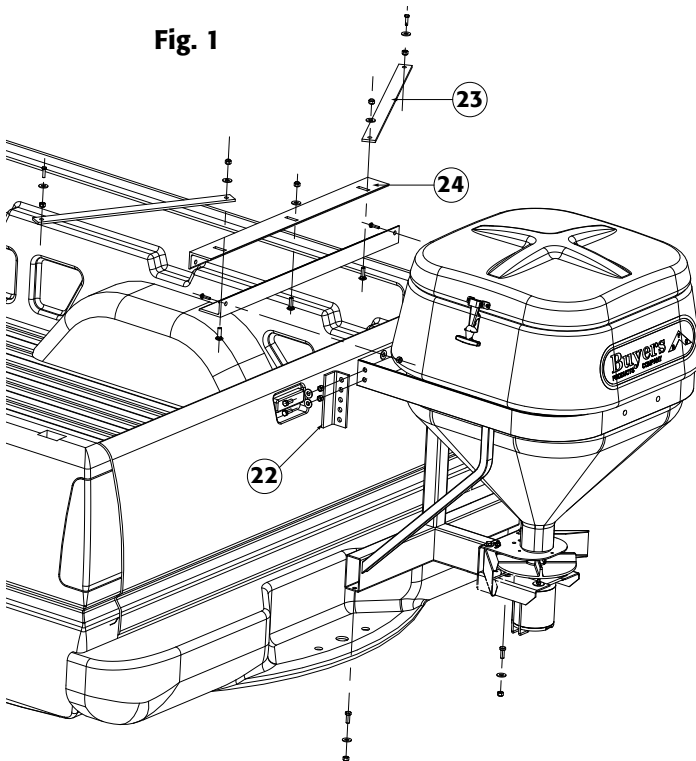

Fig. 1
### Installation (fig. 1)
2. Assembly Angles (24) and Braces (23) as shown in Fig.1 Use 3/8" carriage bolts, flat washers and nuts. Do not tighten fasteners at this moment.